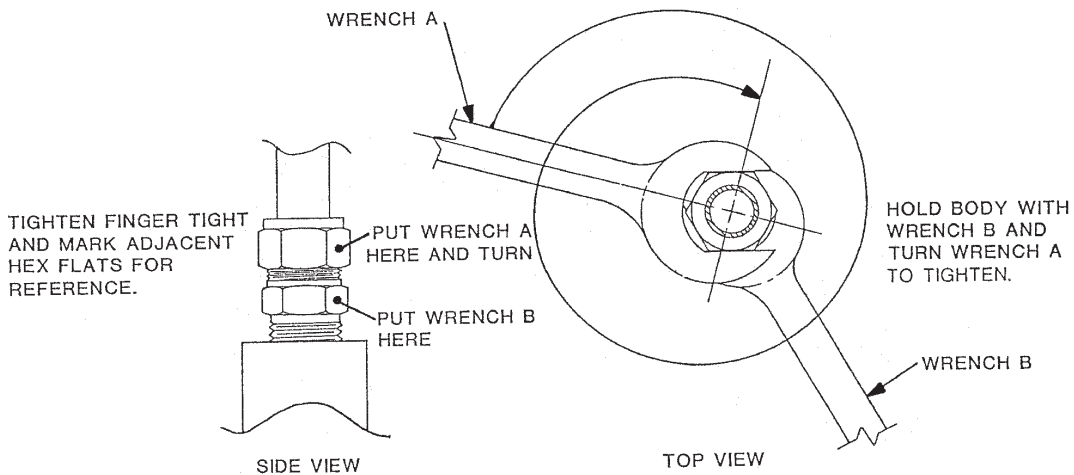

FIGURE 21. Male Connector Tightening Diagram
1. Be certain system pressure at the sensor is below 64 psig (542 kPa) before proceeding with the retraction. It is also recommended that the personnel wear a face shield and have a stable footing. Refer to Figures 21 and 22. Push in on the sensor end or the top of the J-box and slowly loosen the hex nut (B) of the process end male connector (A).
2. Be certain that pressure at the sensor is below 35 psig (343 KPa) before proceeding with the retraction. It is also recommended that the personnel wear a face shield and have a stable footing. Refer to Figures 21 and 22. Push in on the sensor end or the top of the J-box and slowly loosen the hex nut (B) of the process end male connector (A).